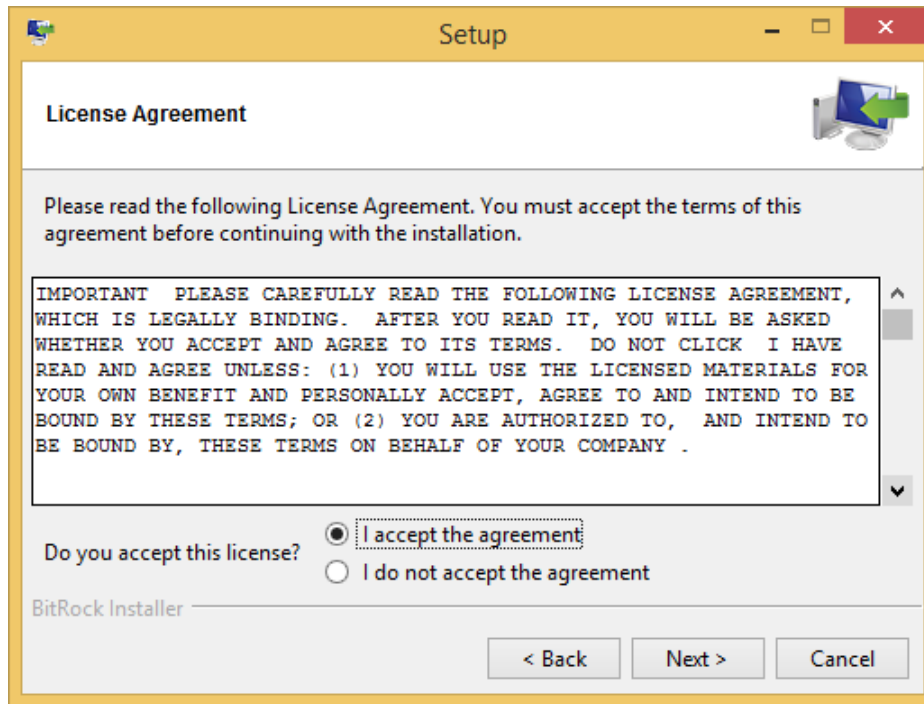

Figure 3. GUI Installer License Agreement
5. Read the license agreement and if you still wish to install the software, select “I accept the agreement” and click “Next” as shown in Figure 3